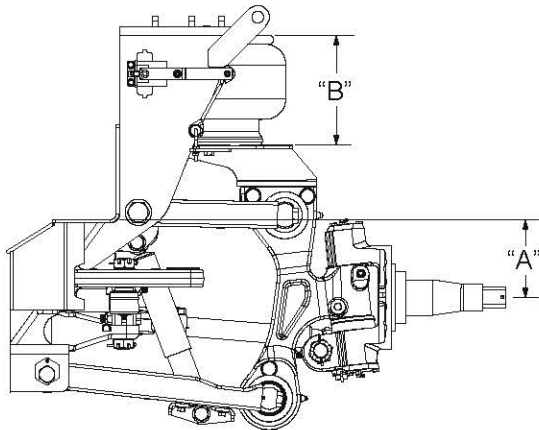

Figure 11 – Measurement at Ride Height
The ride height of the front suspension is the distance from the bottom of the chassis frame rail to the center of the wheel spindle. An alternate measurement may be taken as the height of the air spring (Figure 11).
- A: On vehicles with front suspension equipped with (2) height control valves, check and adjust the rear suspension first.
4. Measure either the wheel center to bottom of frame ("A") or air spring height ("B"). If the dimensions are not within $\pm 1/8$ " of measurements in **Figure 11**, adjust as follows.